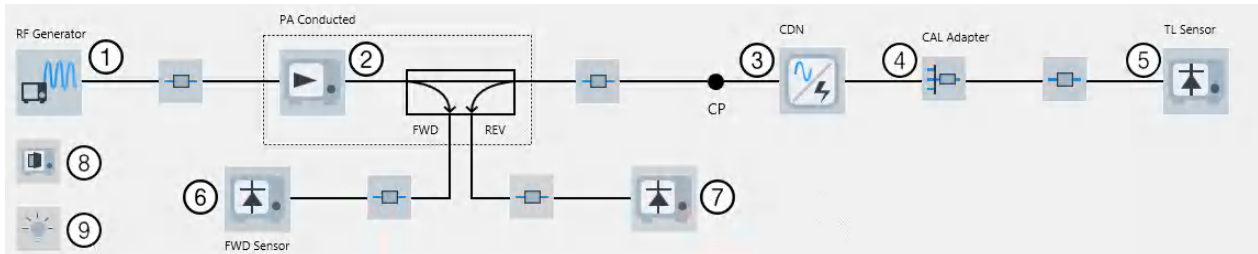

Figure 4-151: EMS hardware setup diagram (conducted) for CDN / EM Clamp in Calibration View
- The "Calibration View" (see Figure 4-151)